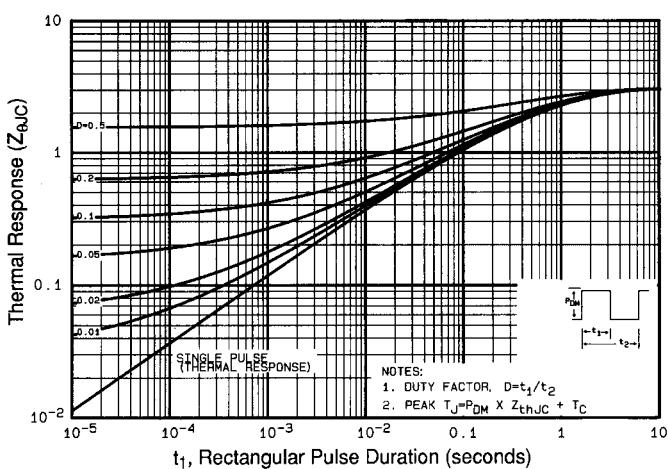

Fig 11. Maximum Effective Transient Thermal Impedance, Junction-to-Case
① Repetitive rating; pulse width limited by max. junction temperature (See Figure 11)
③ $I_{SD}\leq 52\text{A}$, $dI/dt\leq 250\text{A}/\mu\text{s}$, $V_{DD}\leq V_{(\text{BR})\text{DSS}}$, $T_J\leq 175^\circ\text{C}$
⑤ $t=60\text{s}$, $f=60\text{Hz}$
② $V_{DD}=25\text{V}$, starting $T_J=25^\circ\text{C}$, $L=129\mu\text{H}$